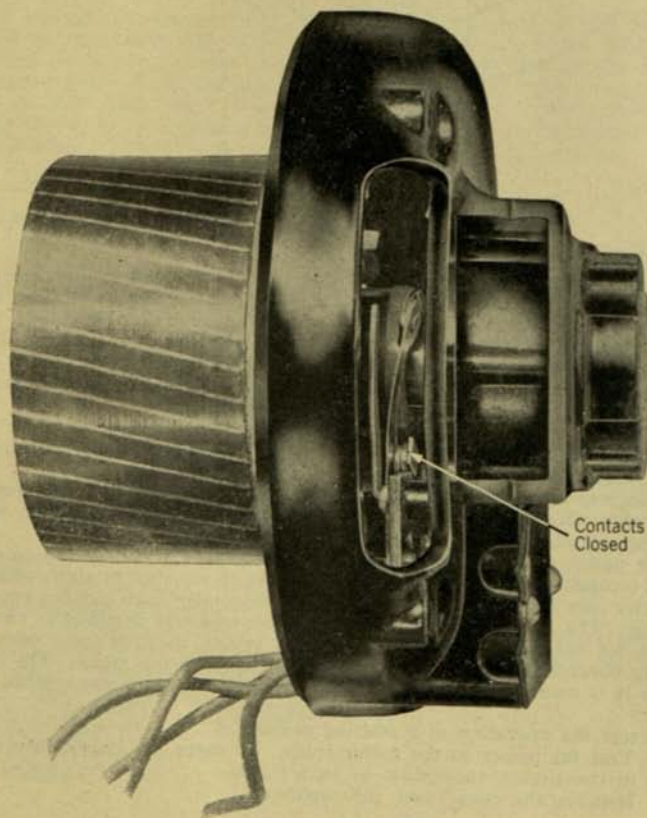
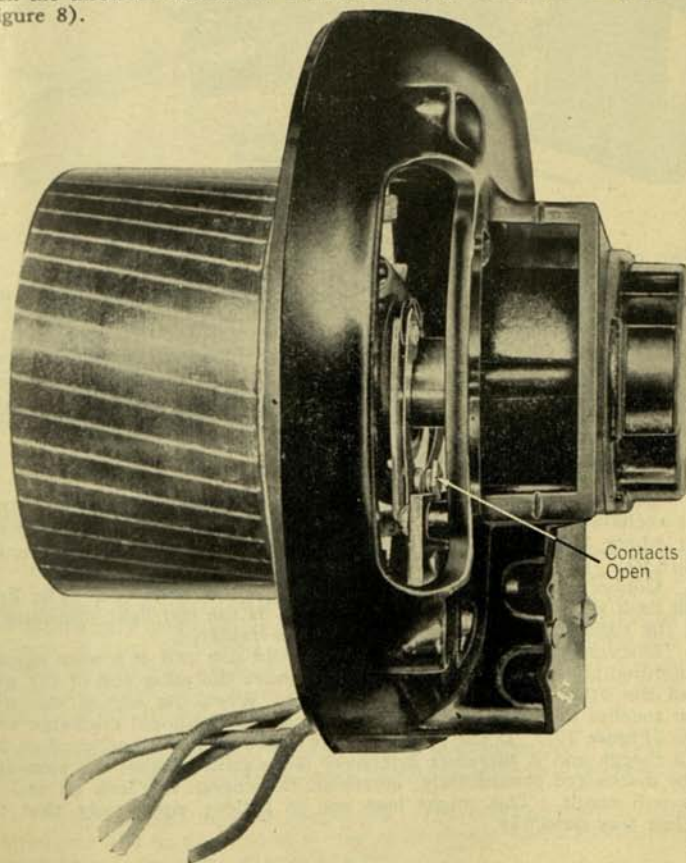

Figure 7. Starting contact (normal position)
Figure 8. Starting switch (running position)
4. Install new switch. Set switch end bell on table and place rotor shaft in bearing. Check to be sure that the fingers of the switch close the contact when in normal position (Figure 7) and allow the contact to open when the throwout mechanism is moved to its extended (running) position (Figure 8).